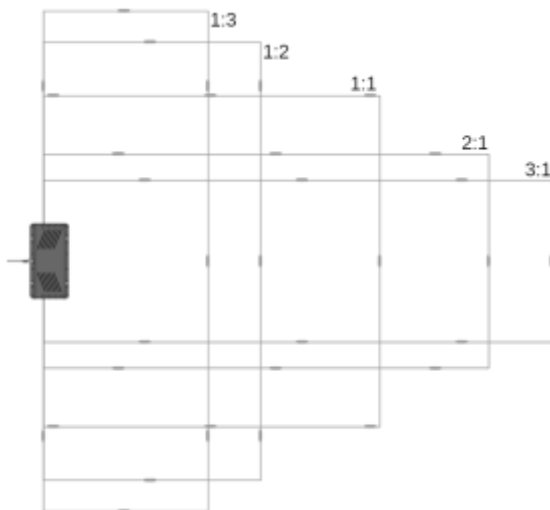

Figure 2: Reactance Range vs loop aspect ratios
- Support for Loop Antenna aspect ratios ranging from approximately 1:1 to 3:1 as shown in *Figure 2*